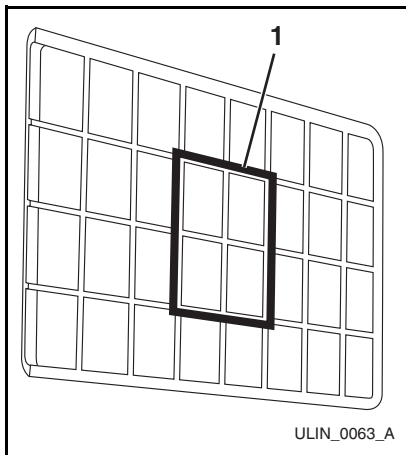

Figure 14
5. Ice cubes in any given batch will vary, so it is necessary to choose cubes from the sample area (**Figure 14, 1**) for comparison when making adjustments. If further adjustments are desired, repeat Steps 1 through 4.